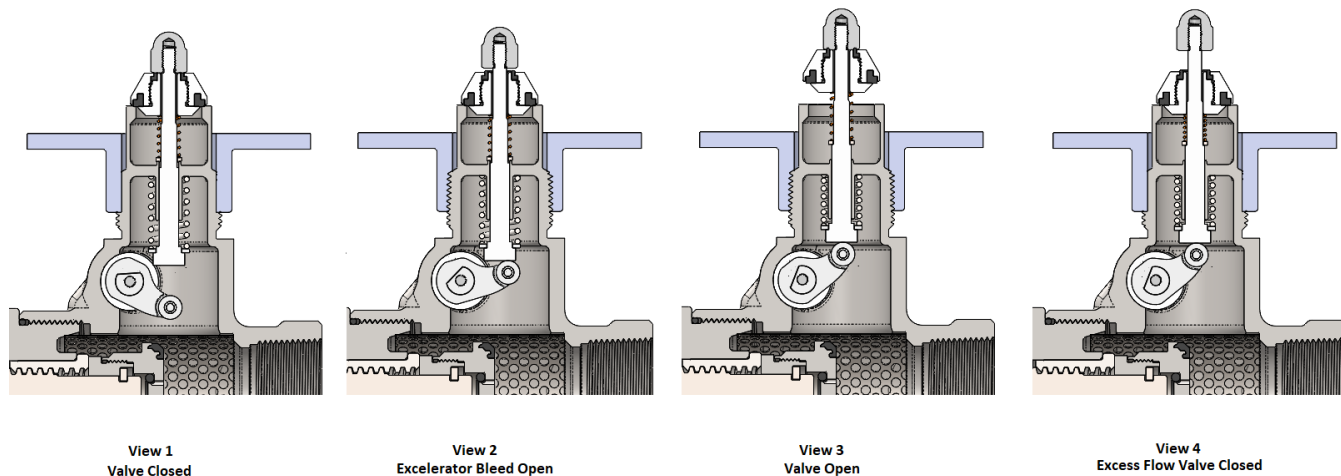
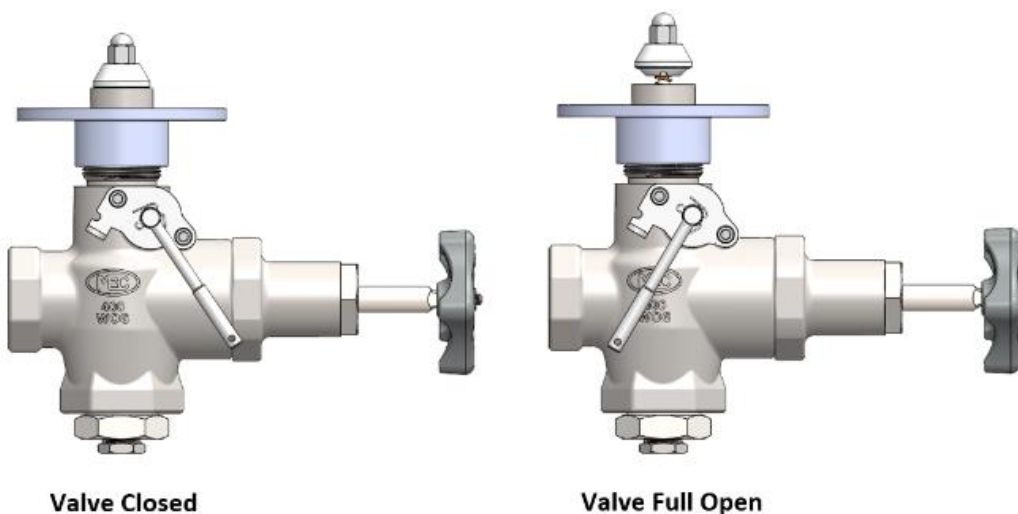

Figure 1: Operational Schematic
Figure 2: Handle orientation
Refer to the operational schematic (Figure 1, View 1). The valve is held closed by both tank pressure and the valve's closing spring. There is no leakage past the resilient seals in the poppet to the valve outlet in this position.
The valve is opened by first rotating the Shutoff handle to the full open position (Figure 2), then moving the operating lever to approximately midpoint in its 70° travel (Figure 1, View 2). This allows the cam to place the rapid equalization portion of the valve stem in the pilot opening, permitting a larger amount of product to bleed
When tank and downstream pressures have equalized in the bleed position, (after a few seconds), the excess flow spring pushes open the main poppet (Figure 1, View 3) and the operating lever can be moved to the full open position.
flow forces the main poppet closed against the excess flow spring (Figure 1, View 4). The pilot valve allows a small amount of product to bleed, but much less than (Figure 1, View 2) where the rapid equalization portion of the stem is placed in the pilot opening. When the operating lever is moved to the closed position, the valve closes completely and seals tightly (Figure 1, View 1).
3. Move the lever to the half-open (rapid equalization) position (Operational Schematic Figure 1, View #2) to equalize pressure. When the main poppet clicks open, move the operating lever fully open.